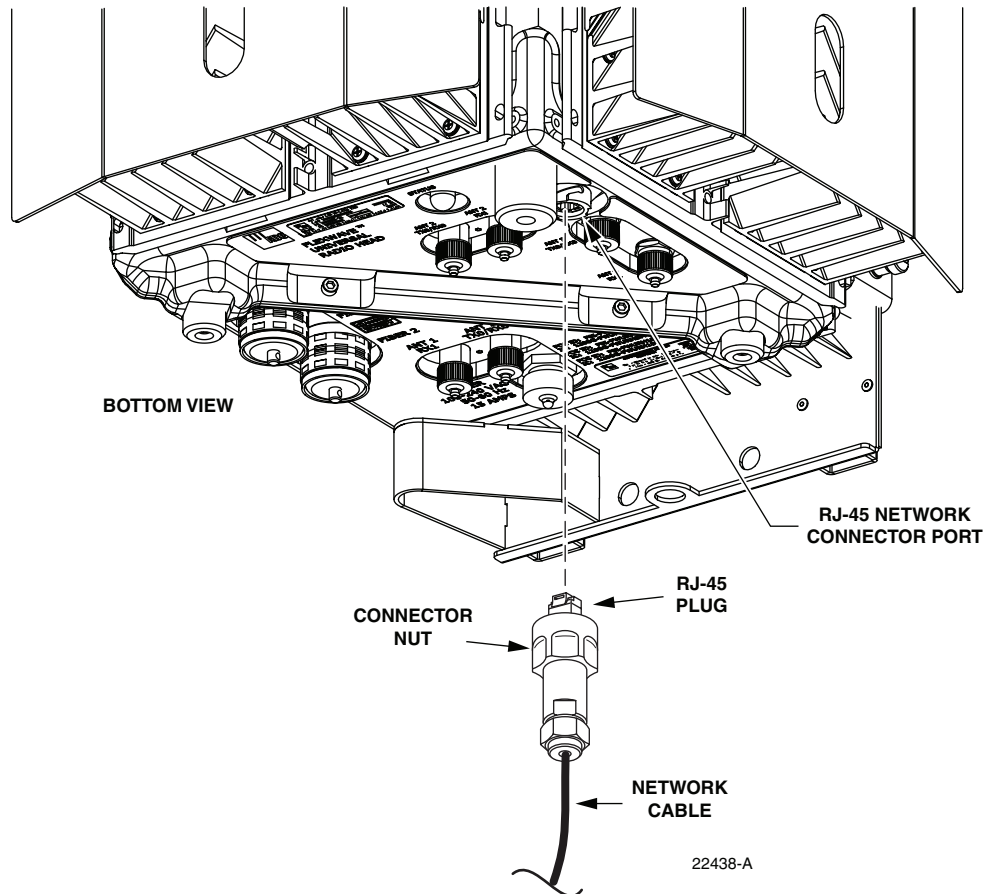

Figure 5. Network Cable Installation
1. Remove the dust cap from the RJ-45 connector located at the bottom of the RU as shown in Figure 5.